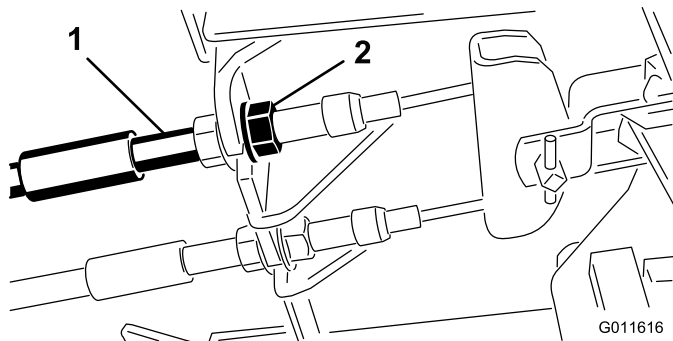

Figure 59
1. To reduce free travel of the brake pedals, tighten the brakes by loosening the front nut on the threaded end of the brake cable (Figure 59).